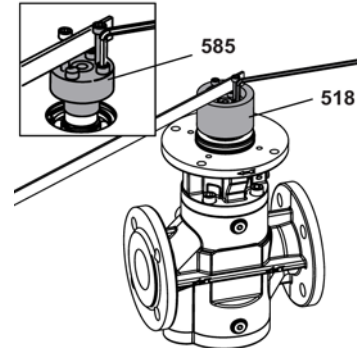

Fig. 7
3. To replace the inner rotor **518**, screw two screws into the empty threaded holes of the tensioning element **585** to prevent rotation, see Fig. 7. Then loosen the screws of the tensioning element and remove them.